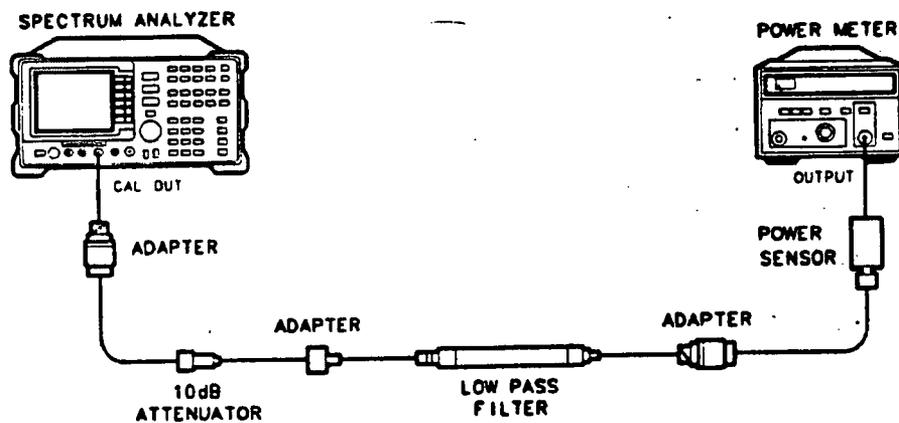

Figure 2-22. 300 MHz Calibrator Amplitude Accuracy Test Setup
24. Connect the equipment as shown in Figure 2-22. The spectrum analyzer should be positioned so that the setup of the adapters, LPF and attenuator do not bind. It may be necessary to support the center of gravity of the devices.